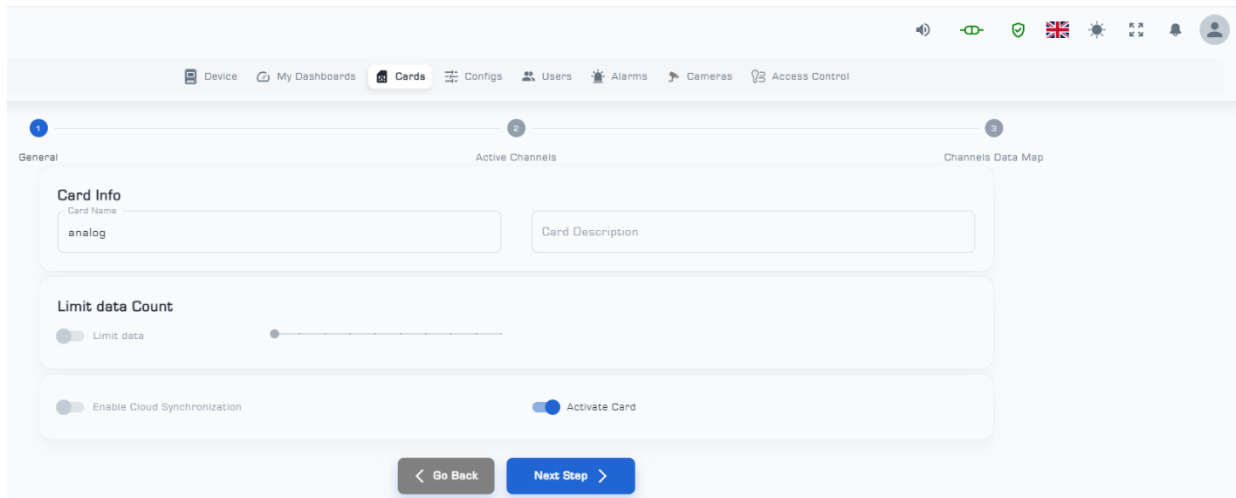

Figure 6: General Page from the Config Menu
- The General page is related to the general settings of the card (Figure 6).
Active Channels displays the list of active and inactive channels (Figure 6).